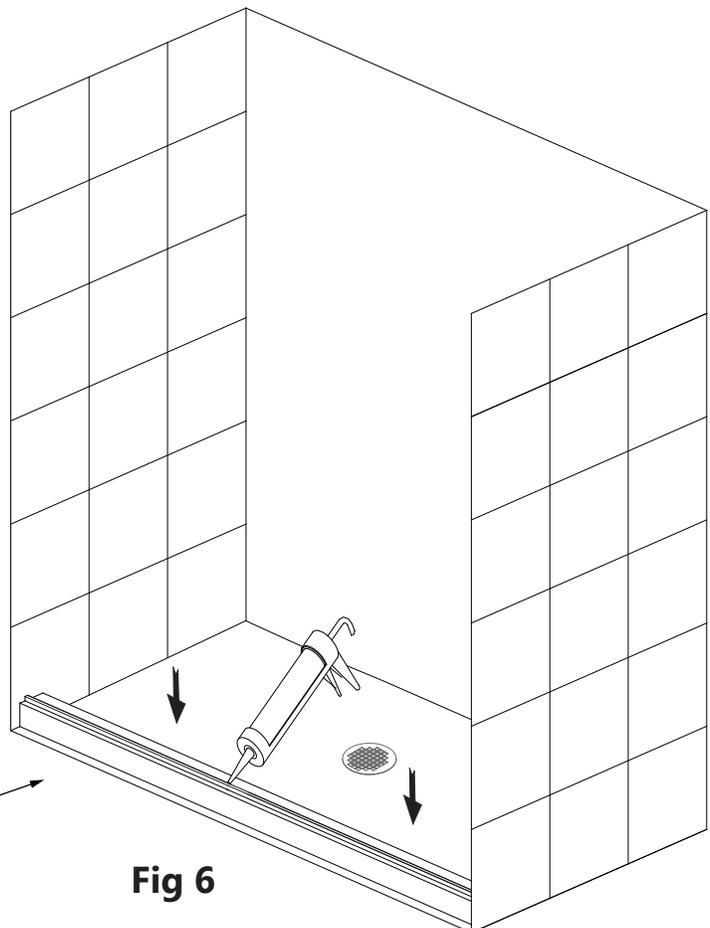

Fig 6
6. Run a bead of silicone along the inside edge of the **Anti-Splash Threshold (#21)**. **(Fig 6)**